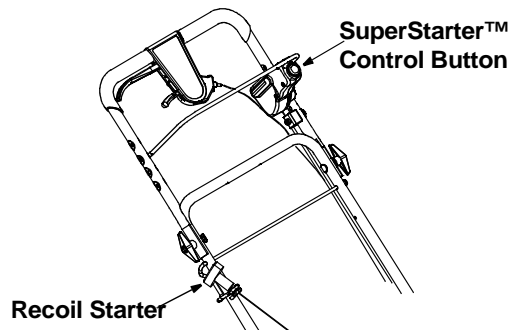

Figure 10
6. Using your left hand, pull the blade control handle all the way toward the upper handle. See Figure 10. Starter will de-energize and engine will start. (NOTE: If engine does not start, release blade control handle and follow steps 8, 9, 10, 11 and 12 in the "First Time Starting Engine" instructions.)